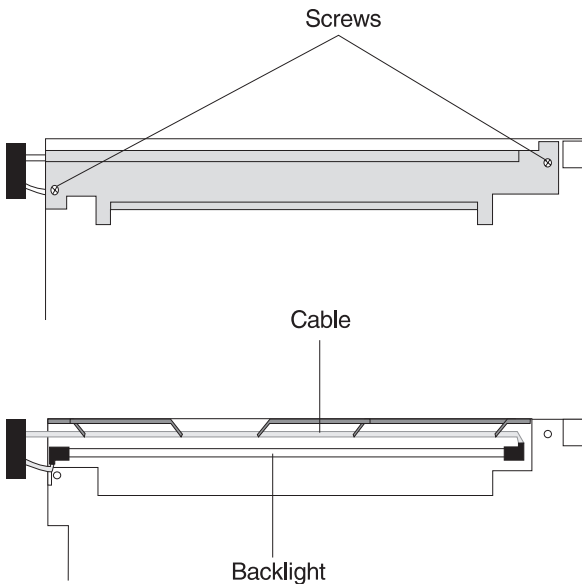

Figure 3-30. Removing the Color Backlight
- 12 Install the new backlight with the cable routed underneath the tabs as shown in Figure 3-30.